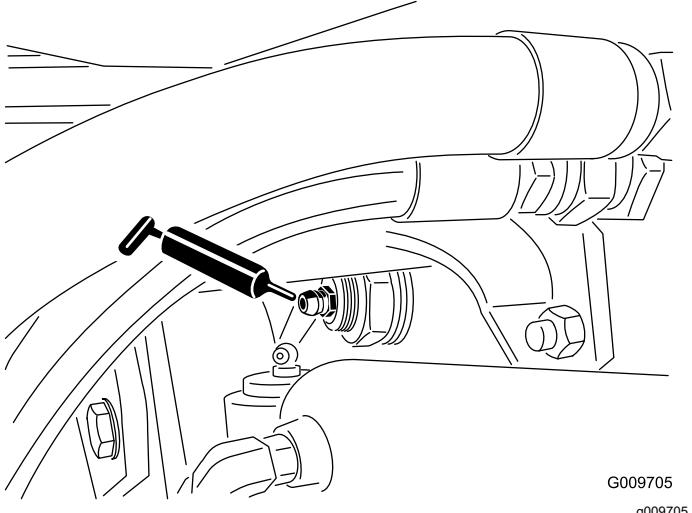

Figure 102
- Rear axle pivot bushings (2), refer to Figure 102